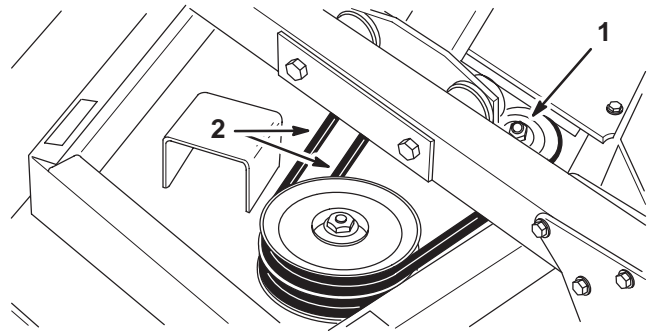

Figure 64
2. To tension belts, loosen flange locknut at top of idler pulley (Fig. 64). Slide pulley against belt until proper tension is reached. Hold pulley in position and tighten locknut.
3. Remove flange head screws securing gearbox plate to deck. To separate plate and drive motor assembly from deck, rotate plate end toward traction unit (Fig. 64). Tip plate, motor and pulley assembly on its side and remove from deck. Be careful not to bend, twist, kink or damage flexible hydraulic lines.
2. Remove deck covers and relieve belt tension on all belts (Fig. 64).